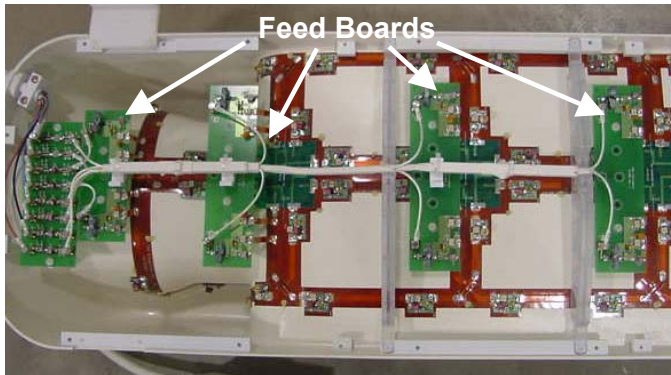

Figure 16: Location of the feeding boards on the coil.
Step 2 – Check the two active decoupling PIN diodes located on each of the feeding boards with a DVM (see *Figures 16 and 17*).